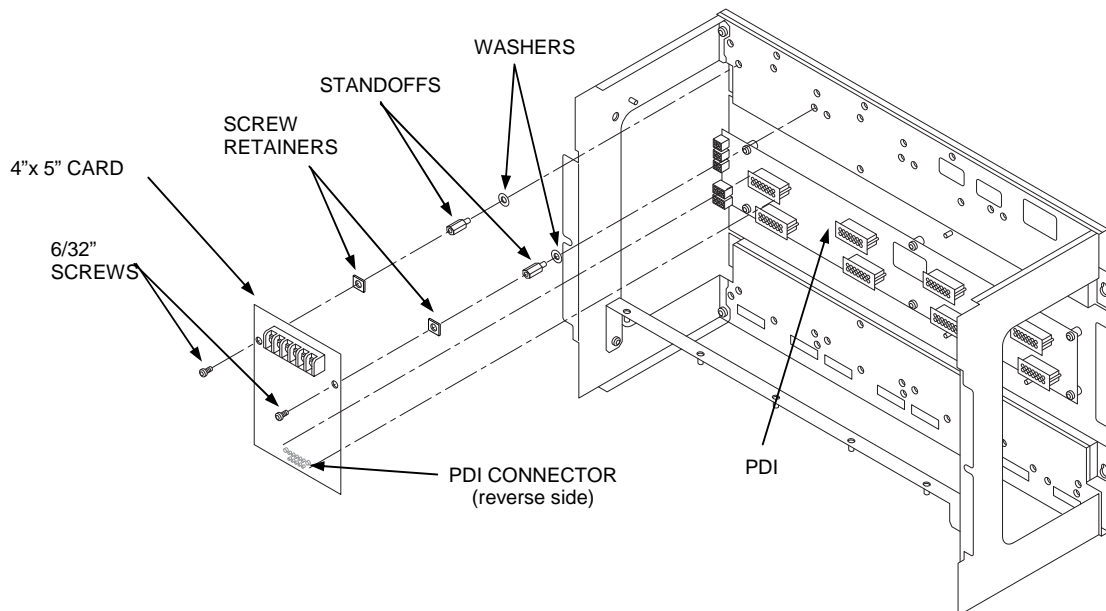

Figure 2-9. Slave Card/PDI Connection
The power distribution interface (PDI) is mounted to the back of the expansion bay. See Figure 2-9. The PDI contains slots for up to eight 4"x 5" slave cards. Since the PDI carries power and data across the entire bay, it solves most interconnection issues, especially between 4"x 5" cards.
1. Screw two standoffs and washers to the appropriate holes in the back of the cabinet. These holes must line up with the screw holes in the 4"x 5" card. See Figure 2-9.